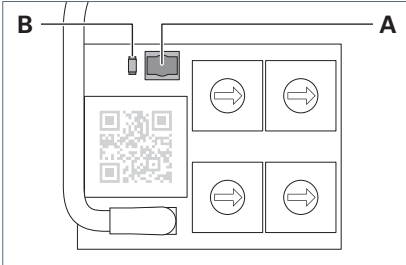

Fig. 13: Key and LED.
- Press the key **A** and keep it depressed for 10 seconds, see Fig. 13.